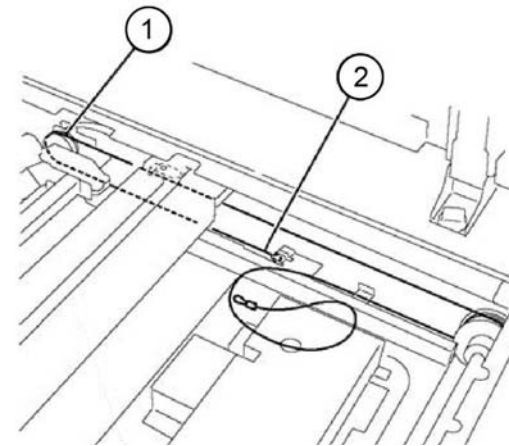
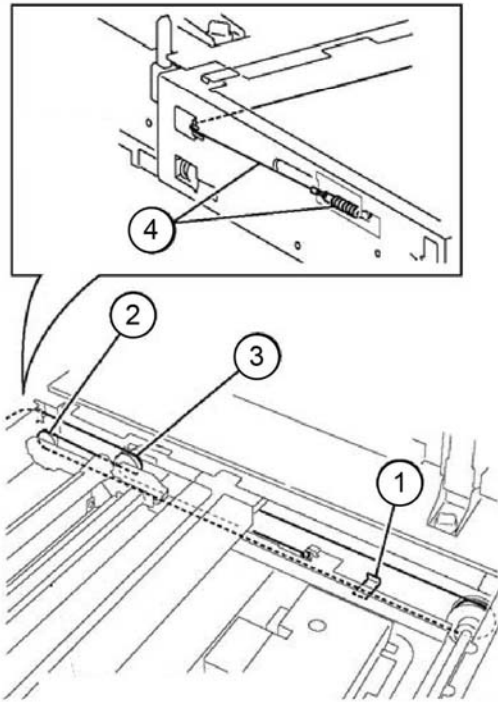

Figure 10 End-ball end installation
Figure 11 Spring attachment
6. Attach the extension spring hanger end of the carriage cable, Figure 11:
- Remove the tape (1) that secures the cable.
- Wrap the cable on the pulley (2).
- Wrap the cable on the pulley at the rear of the half rate carriage (3).
- Attach the extension spring on the cable and hook it to the Frame (4).
5. Install the end-ball end of the carriage cable, Figure 10:
- Wrap the cable on the pulley at the front of the half rate carriage (1).
- Put the end-ball in the notch in the frame (2).